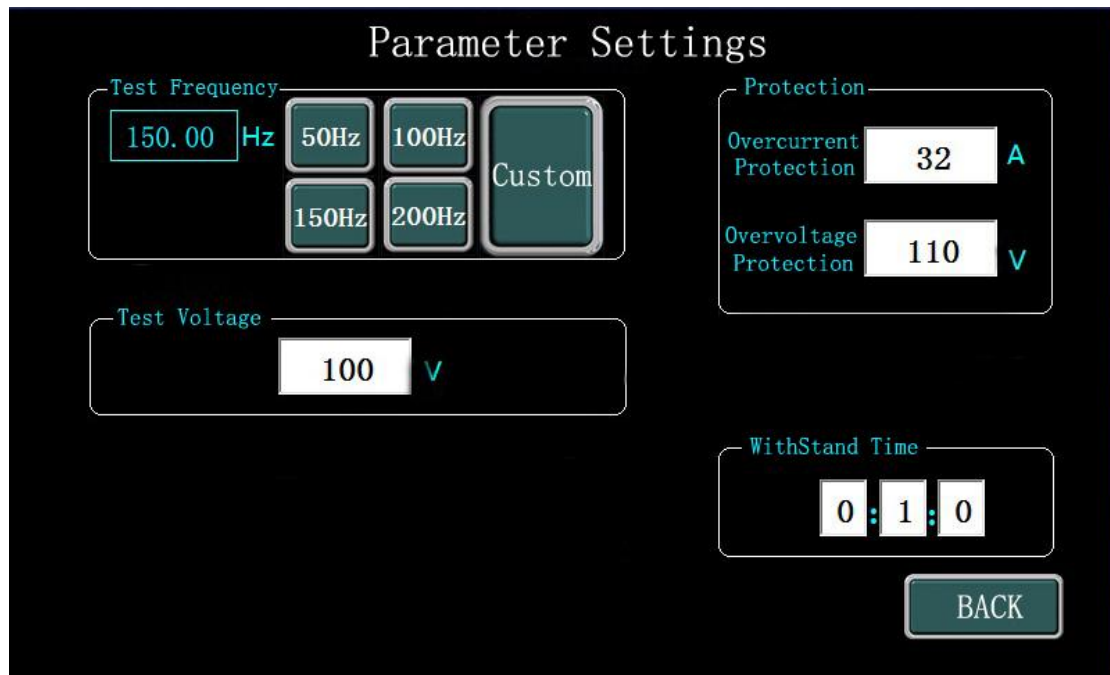

Figure 3
2.2 After clicking "Parameter Configuration", the display interface is shown in Figure 3.